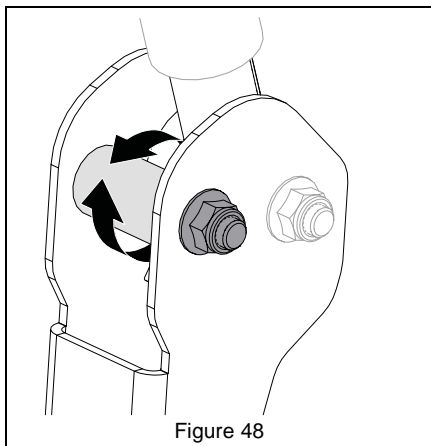

Figure 48
6. Adjust eccentric spacer so levers are at the same height and have a 1.3 cm – 2.5 cm (1/2" – 1") gap between lever ends. See Figure 48.